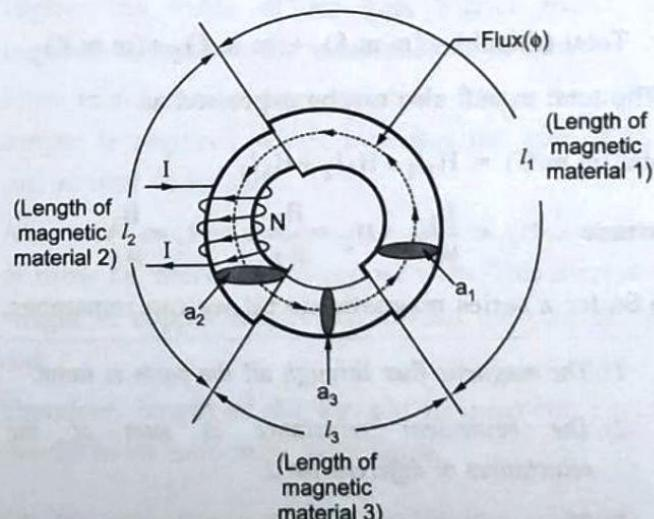

Fig. 1.13.4 A series magnetic circuit
- Consider a circular ring made up of different materials of lengths l_1, l_2 and l_3 and with cross-sectional areas a_1, a_2 and a_3 with absolute permeabilities μ_1, μ_2 and μ_3 as shown in the Fig. 1.13.4.